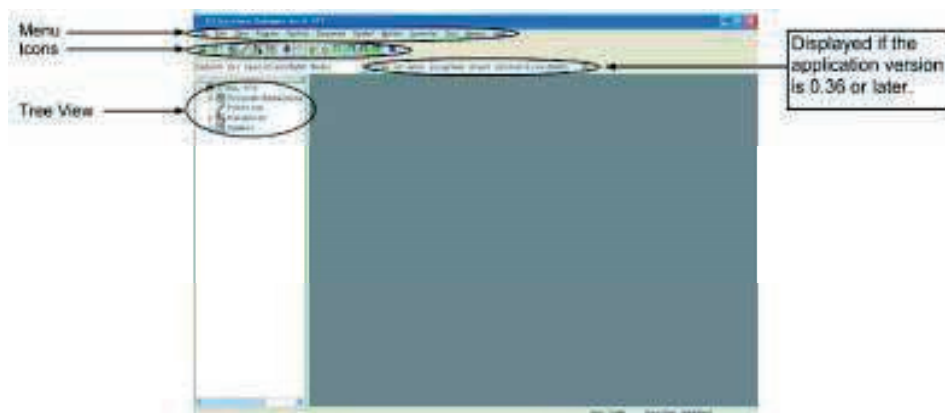

Fig. 3.2 Online Screen(X-SEL-P/Q Controller)
When this software has been started, the main window in Fig. 3.2 will open showing the menu items with icons on the tool bar in the case of the X-SEL-P/Q controller. The tree view appearing on the left side of the window can be displayed by clicking **View (V)** from the menu bar and then selecting **Tree View (T)**. (Initial window: Main menu)